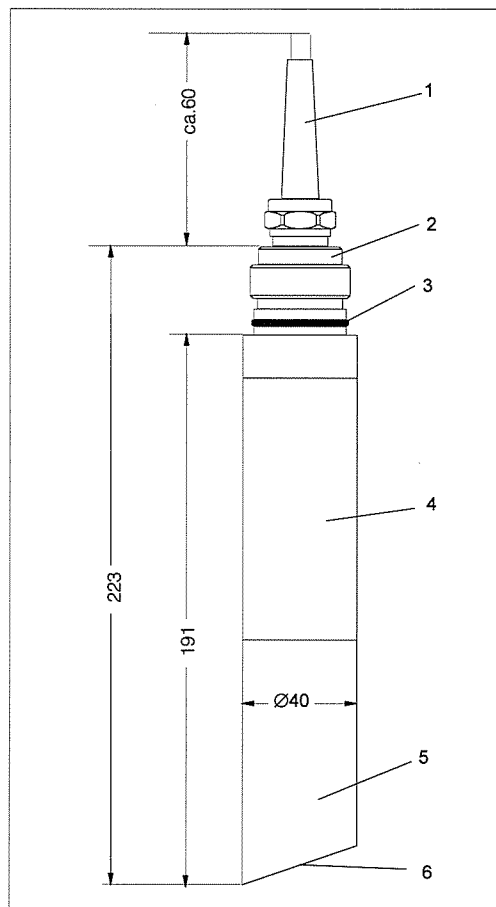

Fig. 3.4 Dimensioned drawing of CUS 1 / CUS 4
The sensor CUS1 / CUS 4 consists of the following function units (see fig. 3.4):
The sensor is equipped with an internal G 1" thread and used in conjunction with the following assemblies (see fig. 3.4, pos. 2):